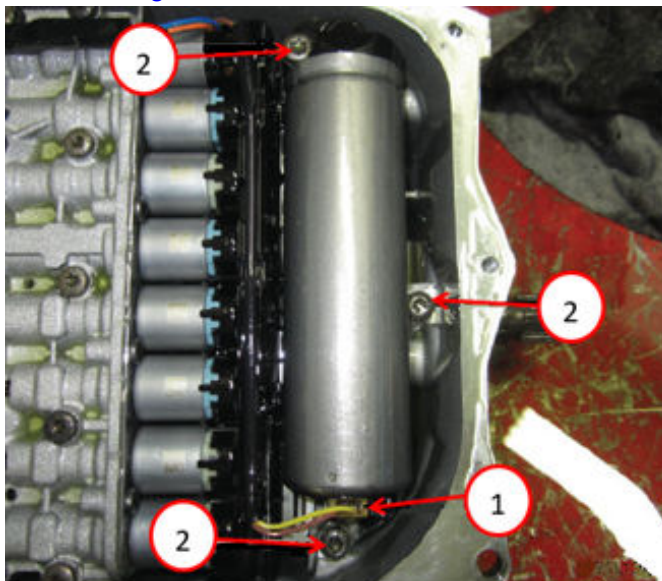

Fig. 48
72. Remove the tie strap and return the manual release lever to the original position Fig. 48.